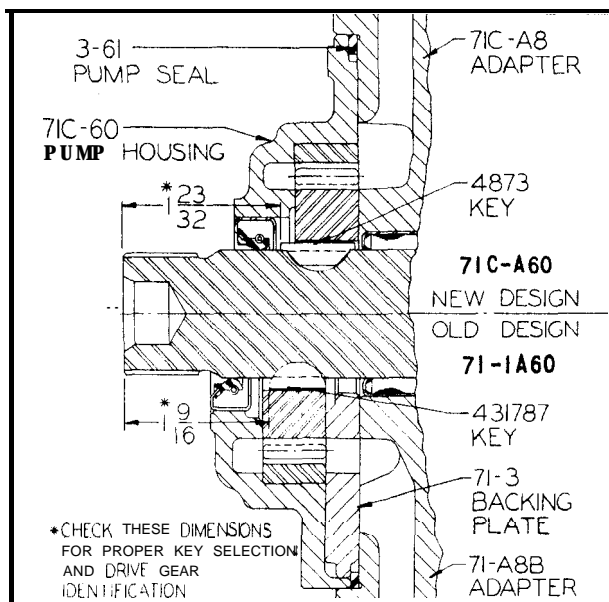
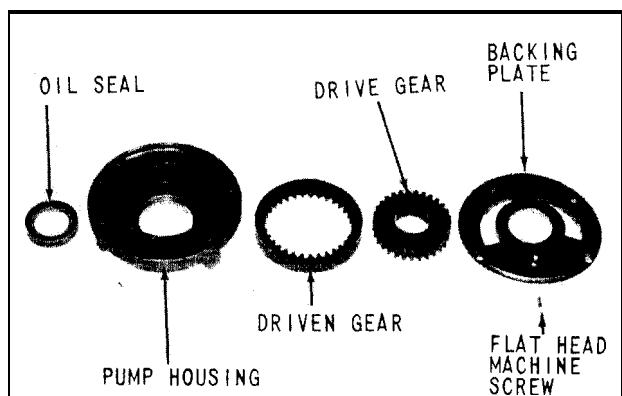

Fig. 90 Illustration of the Installation of the Two Types of Pump Assemblies and Their Related Parts.
Fig. 91 Front Pump Parts with Backing Plate, Assembly 71-1A60
NOTE: Check (Fig. 90) to determine that proper key and shaft are used.
NOTE: The following instructions are for the assembly of the front pump with a backing plate, (Fig. 91). This pump can be used with either of the two different adapter housings, but it should normally be found assembled on the one shown in (Fig. 89). Any of the various versions of the input, shafts may be used with this pump, but the proper key must always be used with each shaft. See (Fig. 90) for comparison of the installation of the two pump assemblies and information on the other related parts.
5. Collect the parts shown in (Fig. 91) and check carefully for the following:
NOTE: Check (Fig. 90) to determining that proper key and shaft are used.